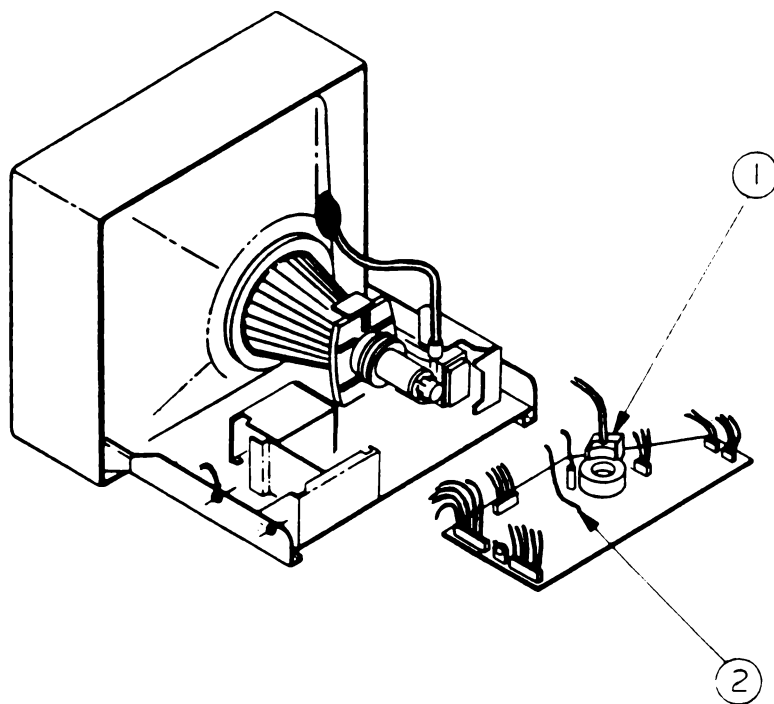

FIGURE 7
5. Slip the CRT video board off the CRT (see Figure 7).
6. Remove the plastic shield (Figure 7, #1) covering the focus wire (black) terminal. Desolder the focus wire from the terminal.
7. Desolder the screen wire (gray) from the SC terminal on the CRT video board (Figure 7, #2).